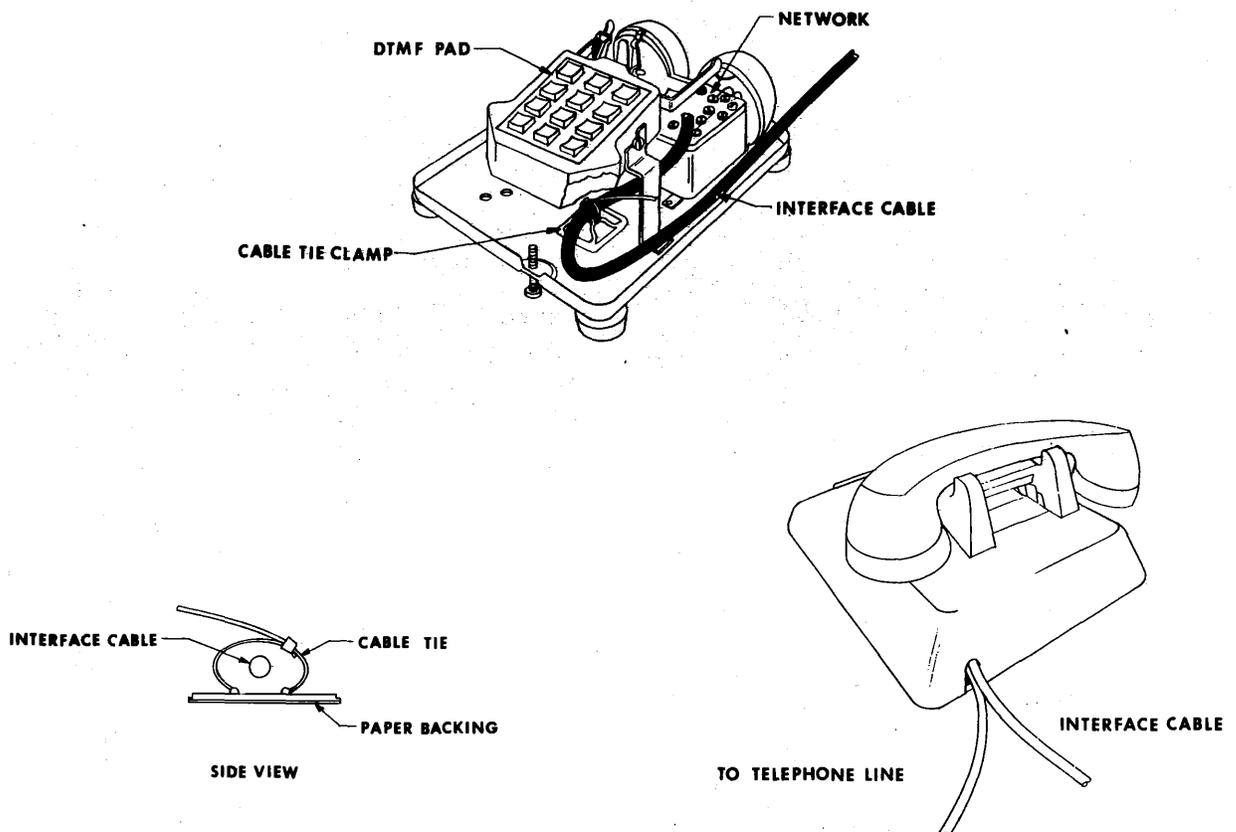
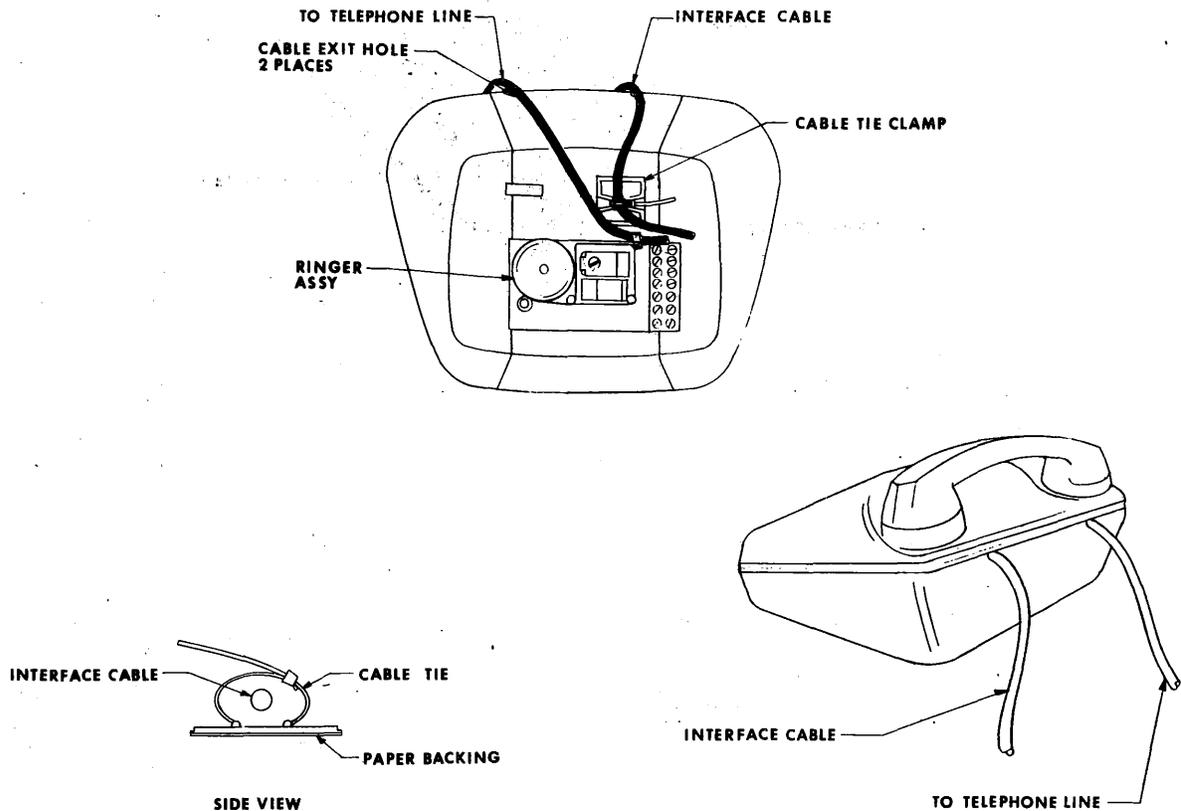

Figure 3-2. Attaching Interface Cable to Standard Desk Sets
Figure 3-3. Connecting Interface Cable to AE890 Desk Sets
- (a) Attach interface cable to telephone set per figures 3-2 and 3-3. Figure 3-2 gives instructions for standard telephones. Figure 3-3 is for Automatic Electric type 890 or phones of similar design.